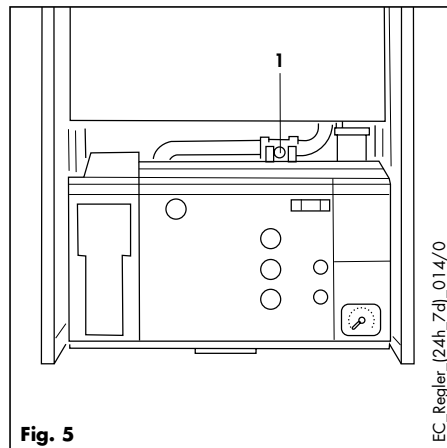

Fig. 5
- Undo screw (1, fig. 5) and lower front control panel.